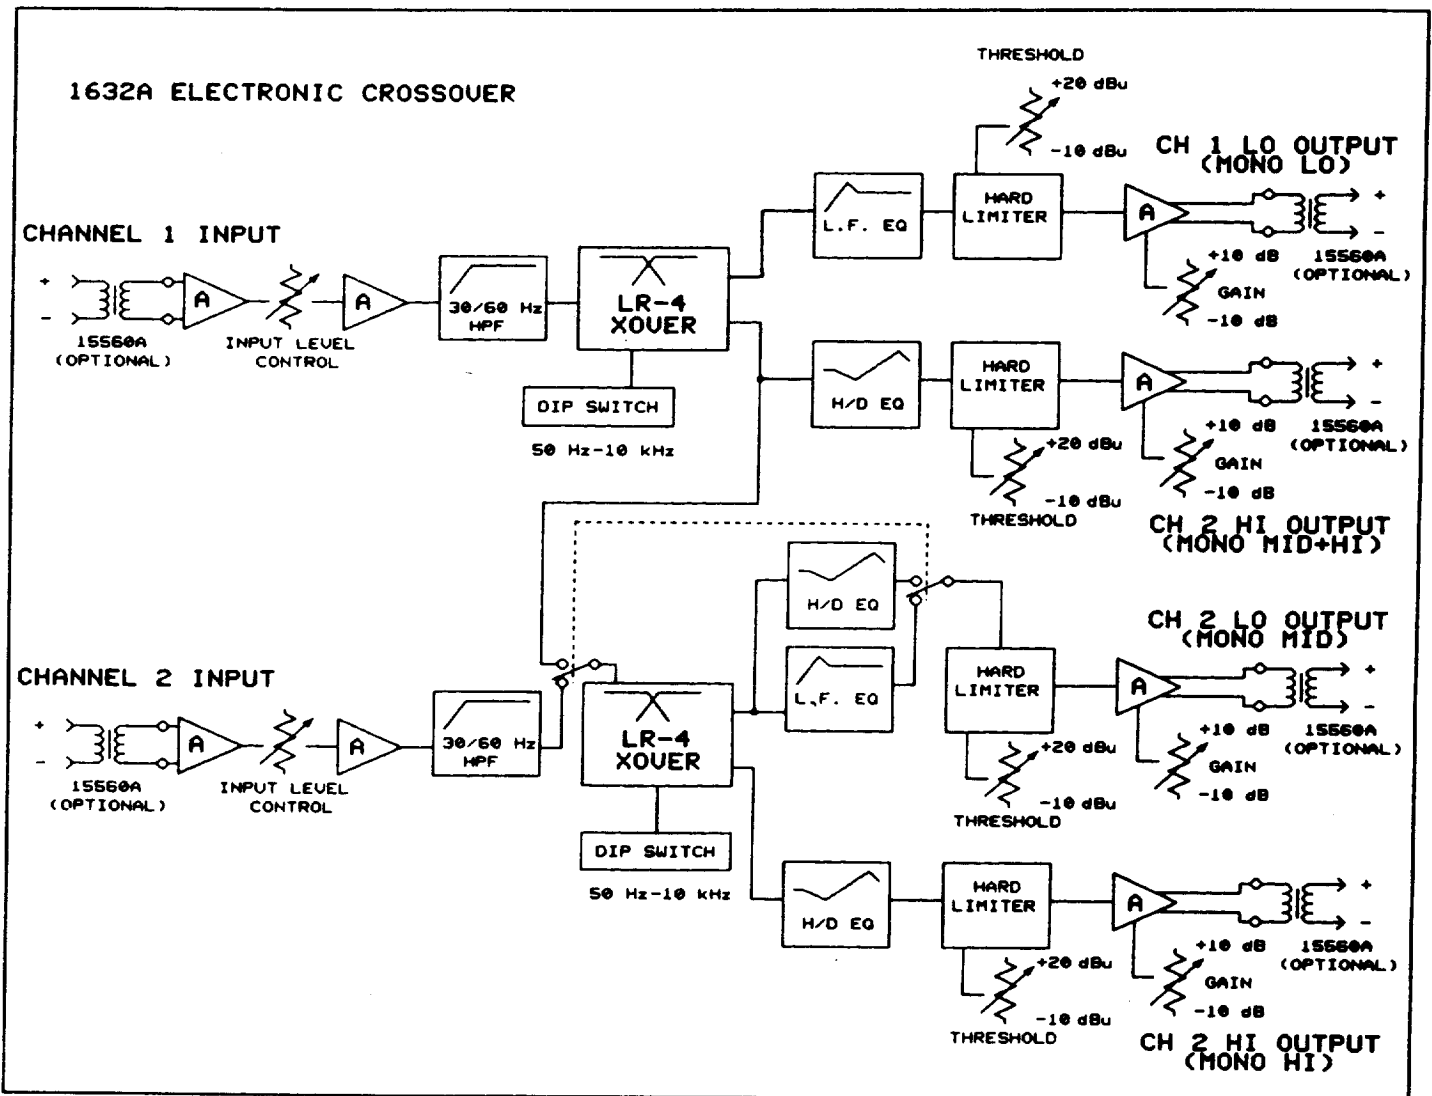

Figure 11. Block diagram of the 1632A.
**NOTE:** An alternate "flat" horn/driver submodule is installed and switched into the signal path of the mid-frequency output when the 1632A is switched in the single channel mode. The low frequency submodule is thus switched out in the single channel mode. See Figure 11 for further details.